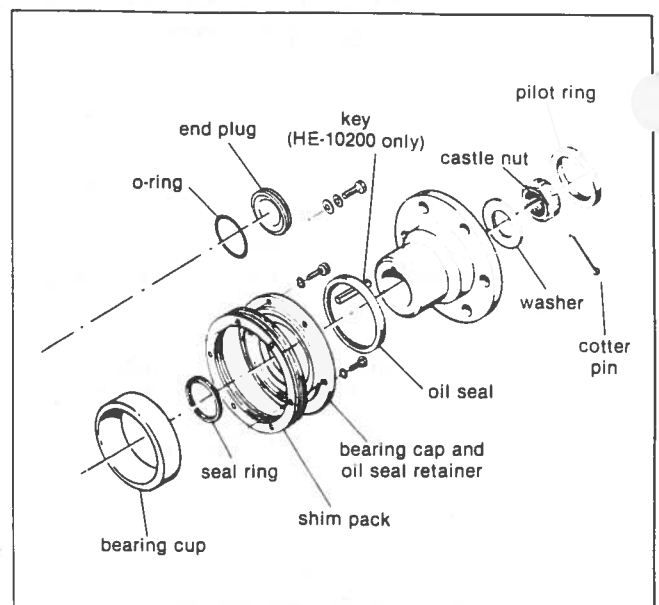

Fig. 35. Output Coupling, Idler End Plug, and Related Parts.
10. If transmission contains an idler gear, be sure to replace o-ring, end plug, washers and capscrew in cover bore (see Fig. 35).